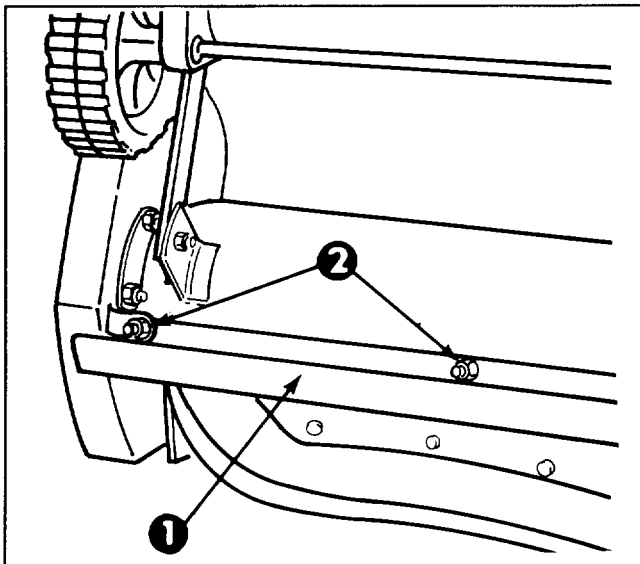

Figure 12
4. Remove (3) carriage bolts and locknuts holding scraper in place (Fig. 12). Remove scraper by sliding it to right and down.